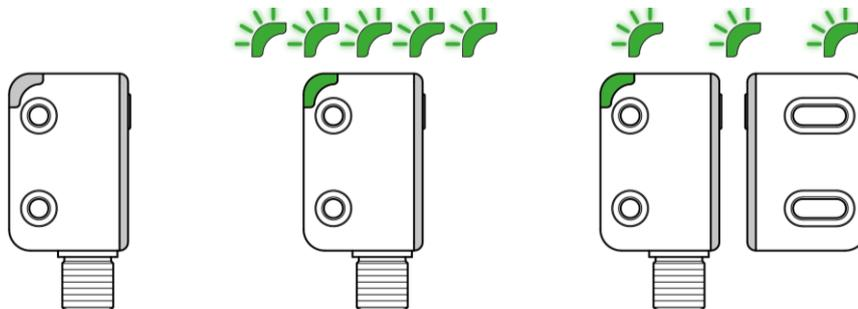

Figure 29 - Teach-in signals
- Power on the R-Safe RFID sensor (Figure 29, condition A).
- After power on, the sensor will be ready for pairing with the actuator (Figure 29, condition B).
- When the actuator is approaching the RFID sensor at a distance $\leq 2\text{mm}$, the sensor is programmed after 5 seconds (Figure 29, condition C).